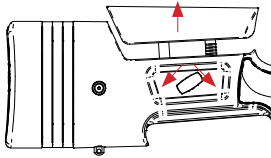

Fig. 12.1
- The cheek piece is easily adaptable in height. Turn the locking screw to the left to free the cheek piece, move the cheek piece to the position needed and turn right the screw to tie the system again. (Fig. 12.1)